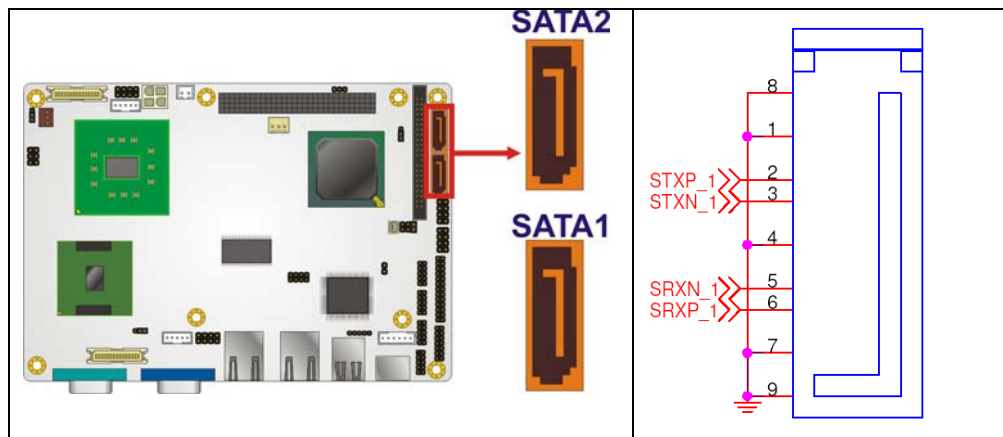

Figure 3-19: SATA Drive Connector Locations
- CN Location:** See Figure 3-19